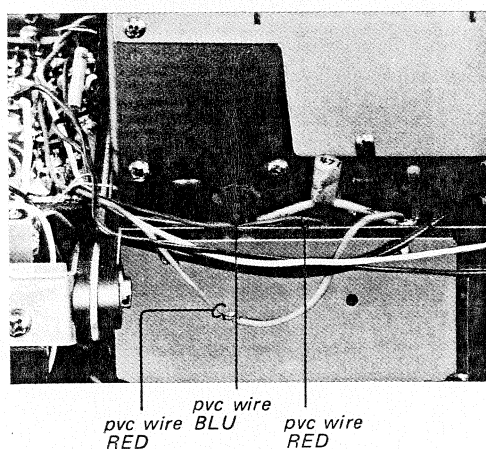

Fig. 2-16
5. Unsolder the three wires which come from the sw front end as shown in Fig. 2-16.